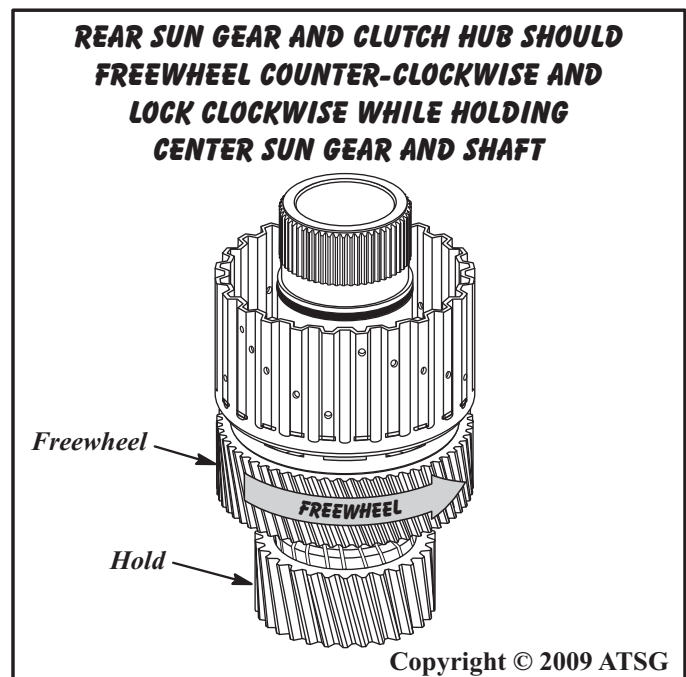

Figure 130
10. Check for proper sprag rotation, as shown in Figure 130.